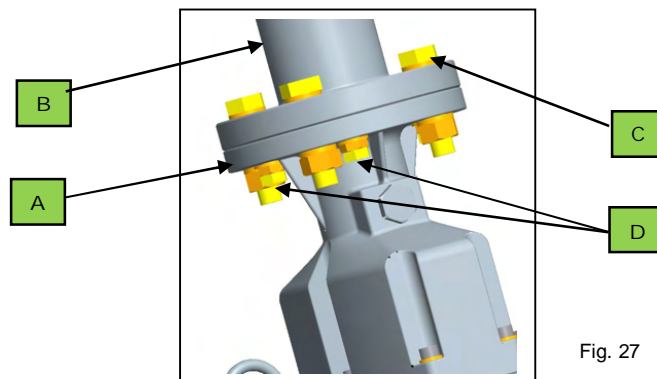

Fig. 27
**First step:** Remove the tape from the entry/exit air zones. Fix the upper flange (Fig.27/A) on the flange of the pipe from the conservator (Fig.27/B) with four M12 screws (Fig.27/C).
**Second step:** Check the upper level (Fig.4/E – 5/E), the internal bubble must be inside the smallest black ring. Readjust the four special screws (Fig.27/D) to find the right position following the scheme: